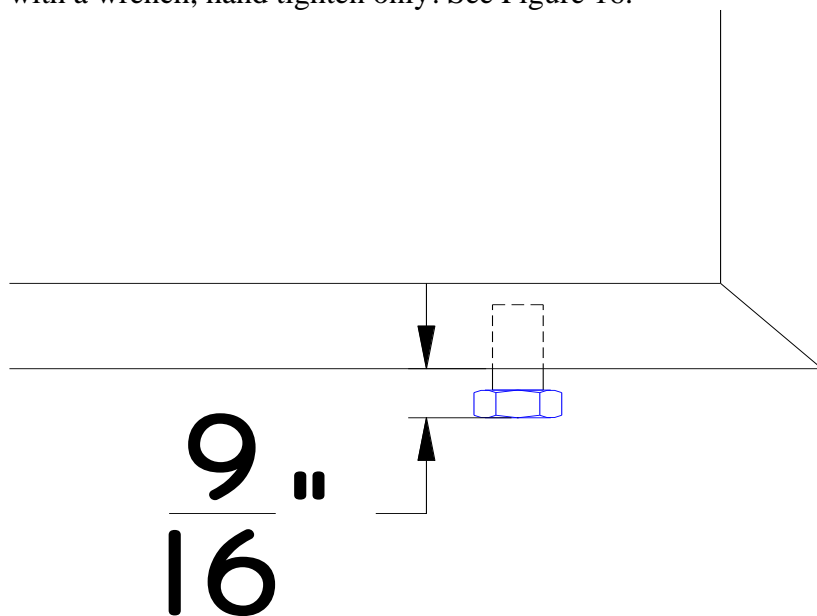

Figure 16.
5. Leave the bolts extending out of the plug approximately $\frac{9}{16}$ " as shown. Do not tighten them with a wrench, hand tighten only! See Figure 16.